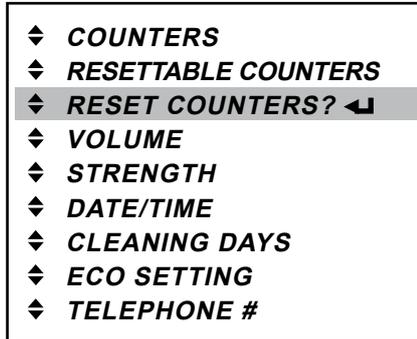

Fig. 56
- In the operator mode, press the enter button \leftarrow to access the «RESET COUNTERS?» menu (fig. 56).